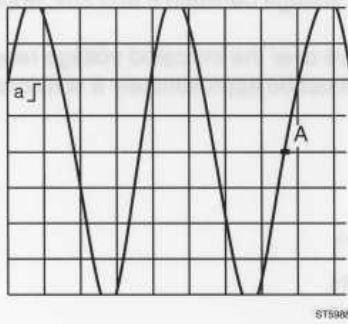

Figure 4.9 Trigger level indication on screen
- Press the TRIGGER key. Use the select/adjust keys to verify that the trigger level range is more than 8 divisions (4 divisions up and 4 divisions down). The selected trigger level is shown on the display (reversed indication " \triangleleft LEVEL"). Also the trigger level indication, marked with an A \Box , will shift, while shifting the trigger level. See figure 4.9.